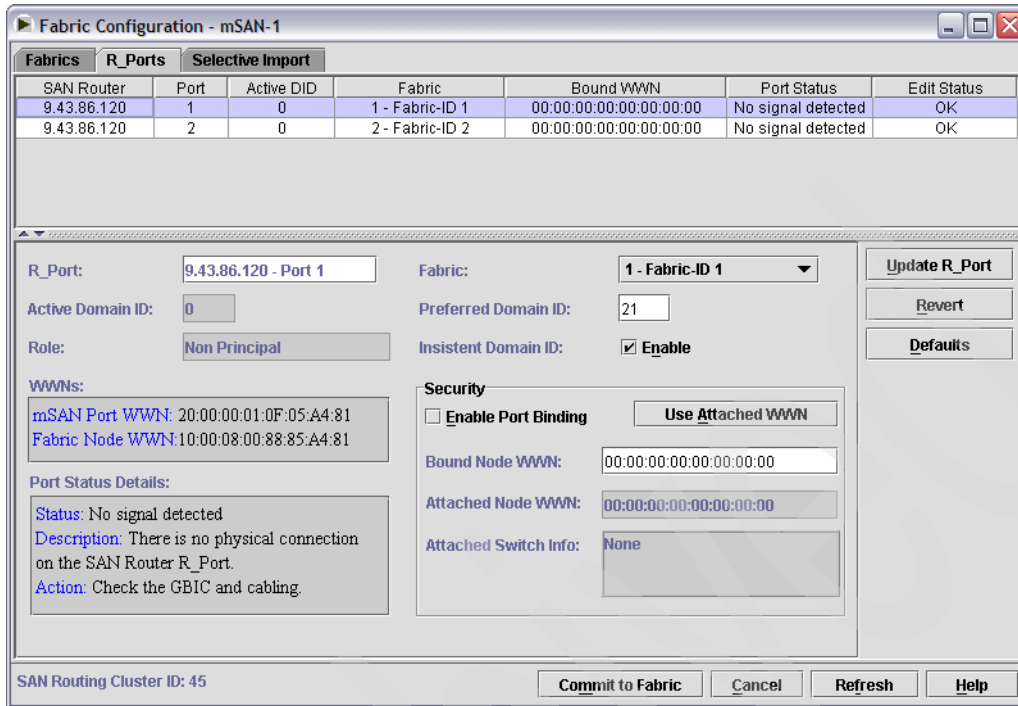

Figure 17-51 Fabric Configuration: R\_ports tab
7. Select the **R\_Ports** tab, as shown in Figure 17-51 on page 494. From here, you can modify the R\_Port characteristics as follows: